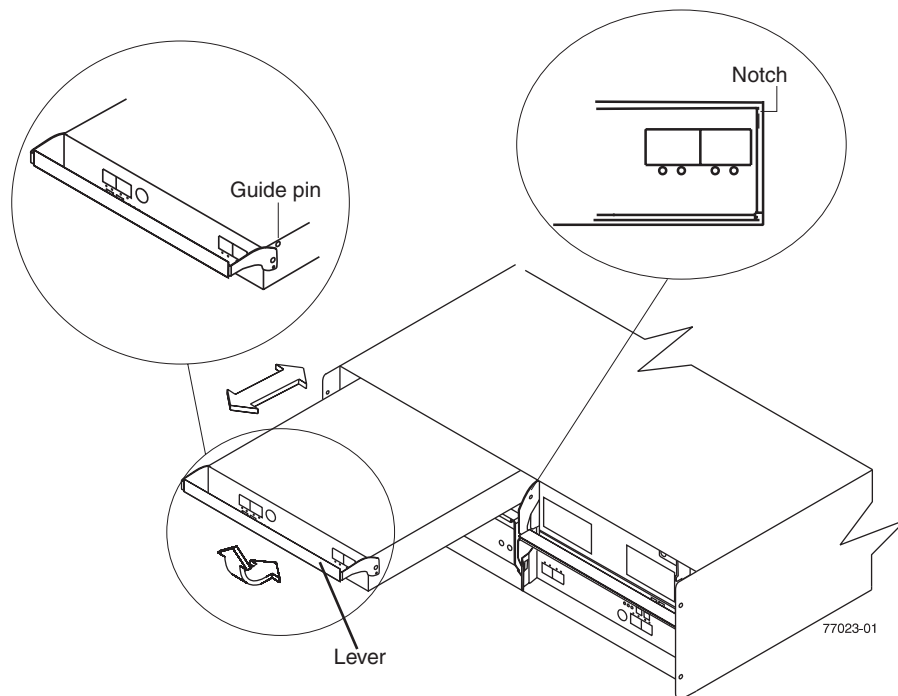

Figure 37. Removing and replacing an Environmental Service Module (ESM)
8. While squeezing the latch, pull the lever open 90° (so that the lever is horizontal). Pull the lever away from the chassis to remove the ESM from the EXP5000 midplane, as shown in Figure 37.
- b. Slowly pull the lever away from the EXP5000 chassis to remove the ESM from the ESM bay, as shown in Figure 37 on page 87. (Remove the ESM from the chassis and place it on an electrostatic discharge (ESD) protected surface.)